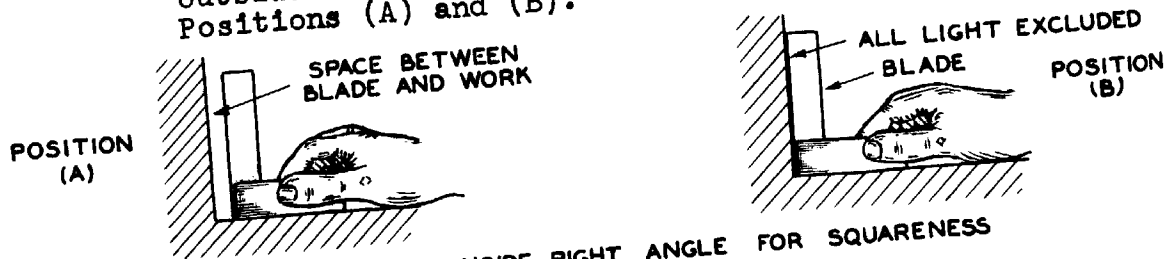

FIG. 19 TESTING AN INSIDE RIGHT ANGLE FOR SQUARENESS
NOTE: The method of checking an inside right angle with the outside edges of the square is illustrated in Figure 19, Positions (A) and (B).